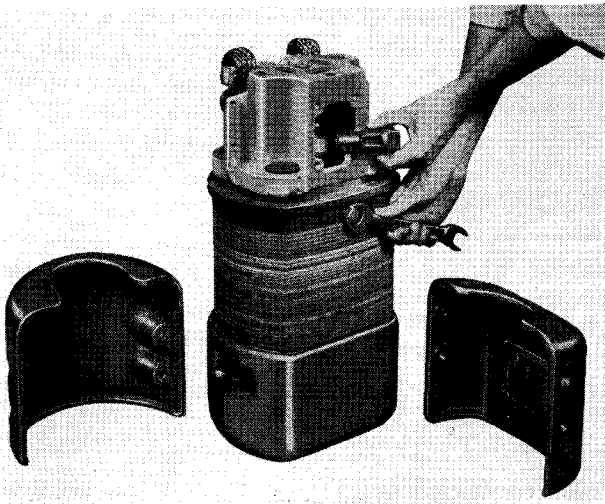

FIG. 18b. Removing Intermediate Contact
Ref. Fig. 18b. The intermediate contact is a floating piece which is restrained by spring seat (27) and Micarta screw (9) in heavy top plate of the grid stack. After the Micarta screw is removed, rotate the intermediate contact 90° after which contact may be pushed up from below and pulled out through the opening in one end of the pressure chamber box. To replace same use reverse procedure. Be sure that slot in the intermediate contact lines up with hole in heavy top plate before replacing the Micarta screw. In tightening down the screw use care so as not to snap it off.